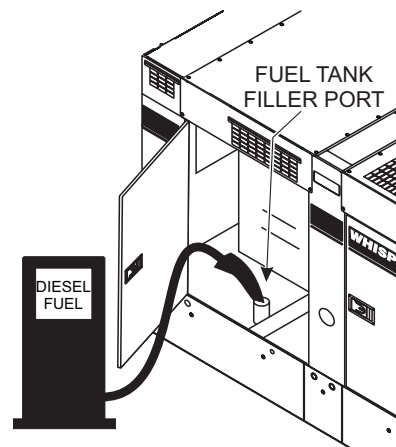

Figure 40. Fueling The Generator
2. Open the enclosure door, remove the fuel cap and fill the tank as shown in Figure 40.